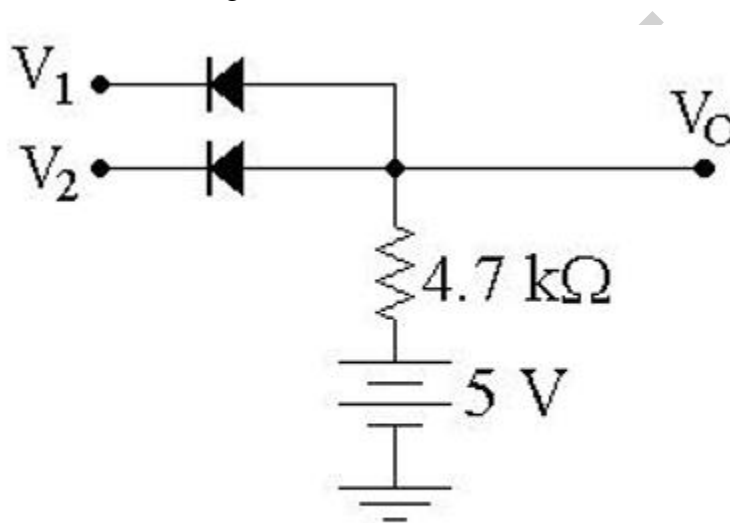

Figure 2 : Positive Logic AND Gate.
1. Construct the circuit as show in Figure 2.